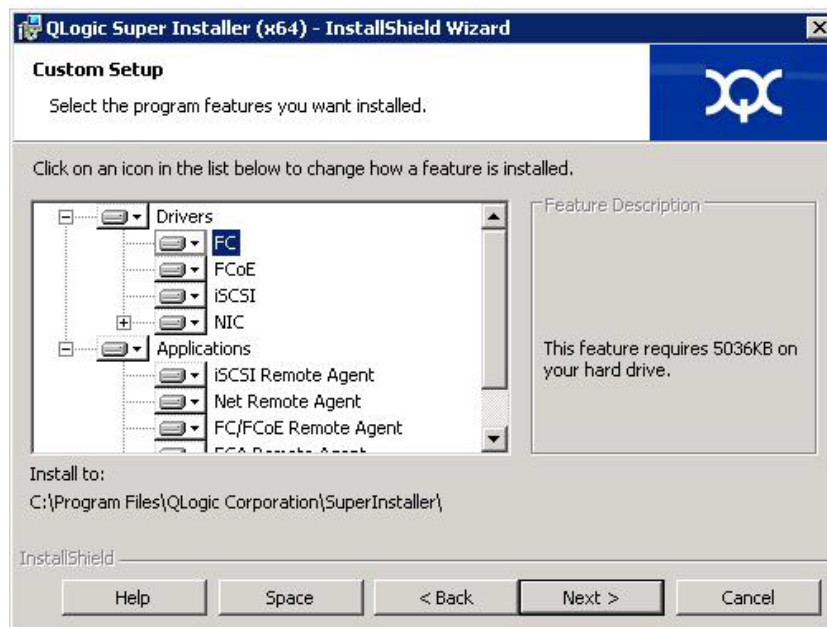

Figure 2-5. InstallShield Wizard: Custom Setup Window
6. If you selected **Custom** in Step 5, complete the Custom Setup window (Figure 2-5 on page 11) as follows: